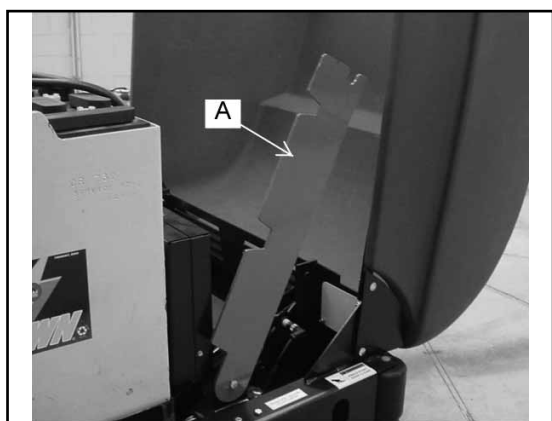

FIGURE 63
1. Fig. 63 & 64. Lift the machine front cover to access battery compartment and rotate the battery lever (A) to the right.